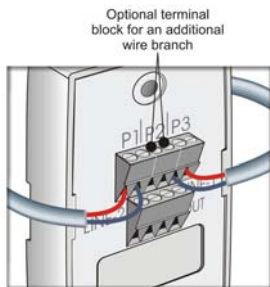

Figure 2.19: Wiring the Smart Outlet™
- Step 3** Connect the telephone wires on the terminal block at the rear of the Smart Outlet™ as shown in Figure 2.19, locations P1, P2, or P3. Loosen the screw of each terminal, and then insert the wire into the corresponding slot. Fasten the screw to hold the wire in place.
The Smart Outlet™ connector has an additional two-wire terminal block for an additional branch connection, as shown in Figure 2.19, above.